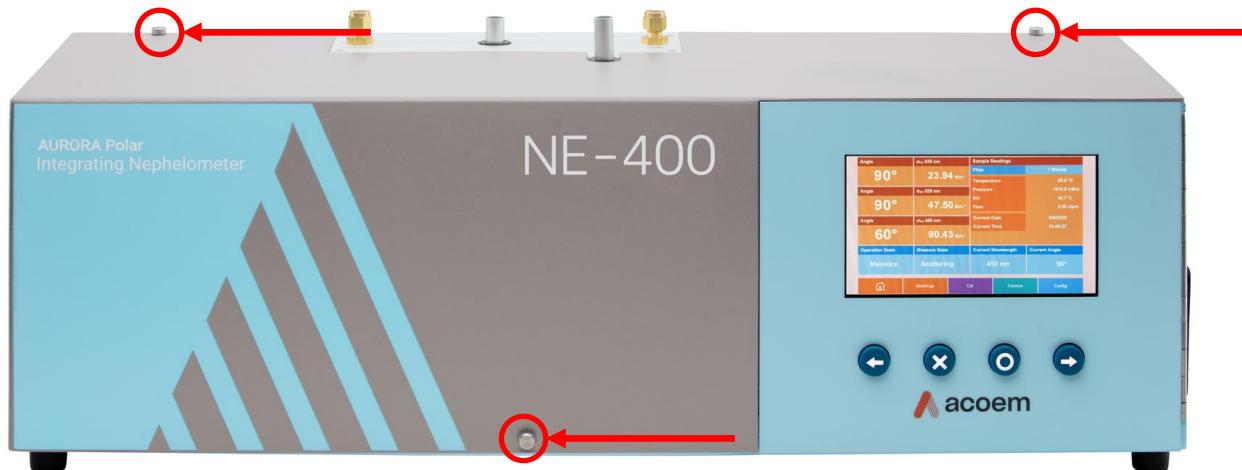

Figure 22 – Chassis Lid Thumb Screw Location
3. Refer to Figure 22. Remove the three thumb screws from the chassis lid and lift upwards.